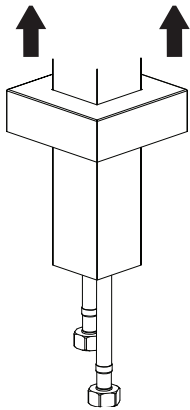

Figure 9
6. Slide the decorative flange onto the tub filler body as shown in Figure 9.